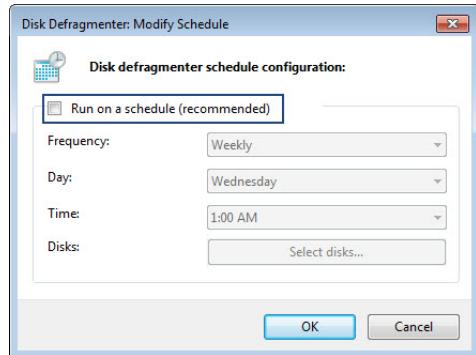

Figure 2-14. Deactivating automatic defragmentation (B)
- 3 In the *Disk Defragmenter: Modify Schedule* dialog box that opens, deselect the **Run on a schedule** box (see Figure 2-14).